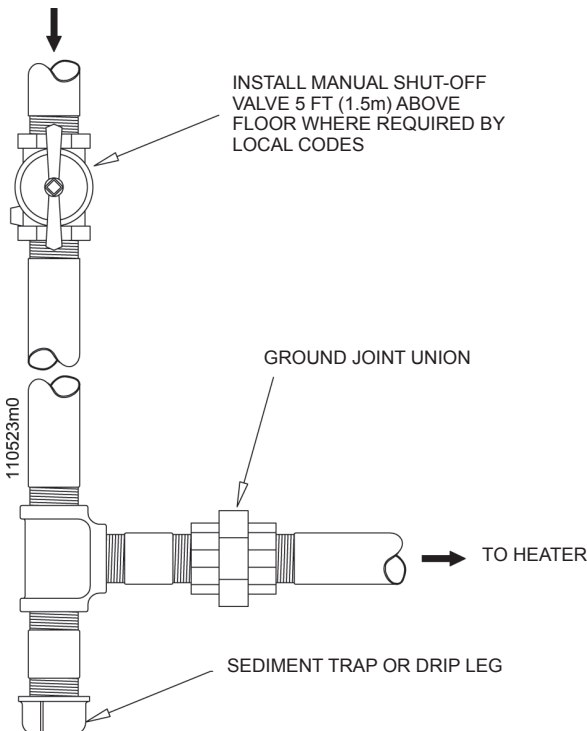

Figure 14-1 Gas supply piping
1. Refer to Figure 14-1 to pipe gas to the heater.
2. Install sediment trap / drip leg. (see Figure 14-1).